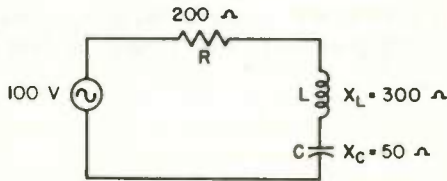

Fig. 40
4. Find the current through the circuit of Fig. 40 and the voltage across the resistor, inductor, and capacitor.